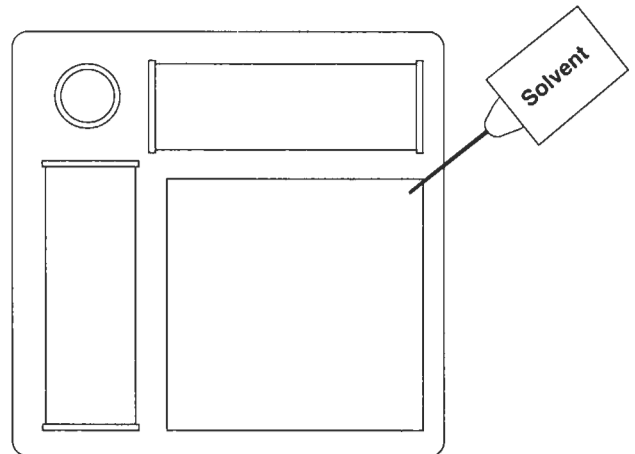

Figure 4 - Cutting board assembly detail.
2. Place **components** on base according to the layout on figure 4.